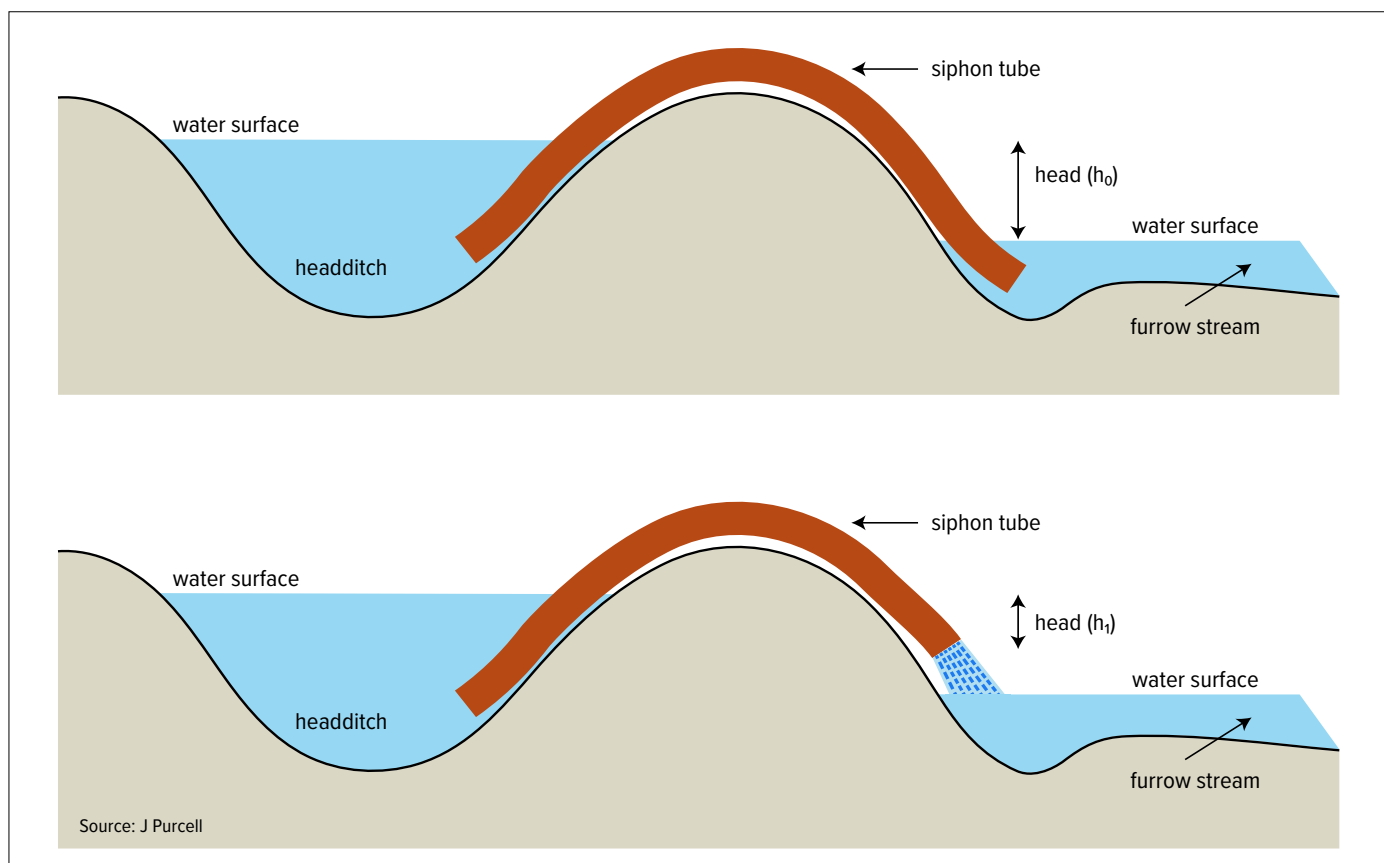

Figure 2 – Difference in head for different siphon placement.
flow conditions, ie discharge under water level in the furrow stream (Figure 2).
- By submerging the siphon in the furrow stream (Figure 2) it will ensure consistent placement across all siphons to assist evenness of flow rates.
- A submerged siphon will have a greater flow rate than one that is not as there is reduced head levels. This is displayed in Figure 2.